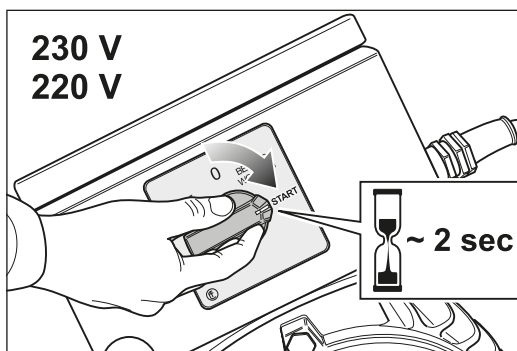

Fig. 17 To switch on the machine turn the switch button at the motor to position -START- and hold the switch button for around 2 seconds in this position.
- 2 To switch on the machine turn the switch button at the motor to position -START- and hold the switch button for around 2 seconds in this position (fig. 17).